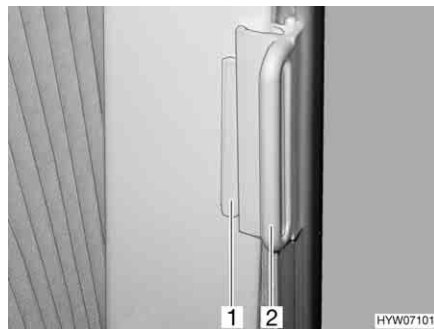

Fig. 109 Roman shade, driver's cabin window
- Grasp the handle (Fig. 109,2) of the Roman shades and draw carefully until the magnetic catch keeps the Roman shades closed.
- Push the handle (Fig. 109,2) onto the cap (Fig. 109,1). The Roman shade is secured.